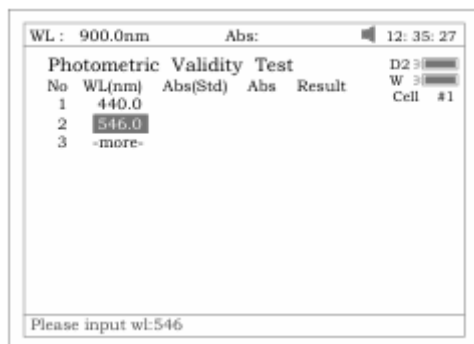

Fig.90
1. Press **【SETλ】** to set the wavelength. Press **【ENTER】** to edit and input wavelength by pressing the numeric keypad (Fig 90). **【ESC/STOP】** to finish inputting and exit.